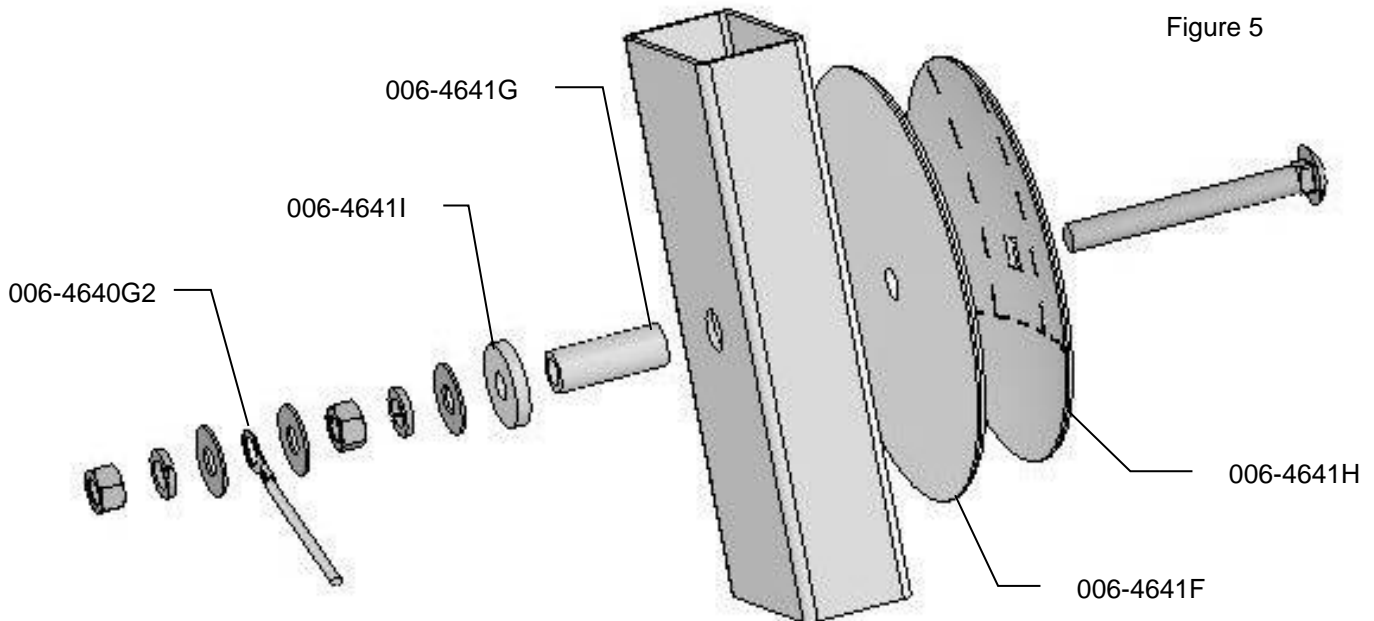

Figure 5
4. Locate the 006-4641G. The piece will need to be cut down to size. Use the already machined line in the bushing to cut off the small piece shown above. (Figure 5)